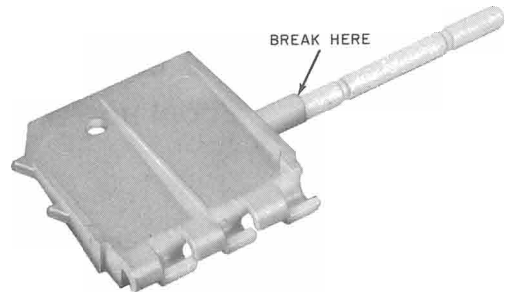

Fig. 1—840360572 Replaceable Coin Vane
2.01 The 840360572 replaceable coin vane (Fig. 1) is a part of D-180410 Kit of Parts.
- (1) Refer to Fig. 1 and carefully break handle off new 840360572 vane. This handle serves as the new hinge pin.